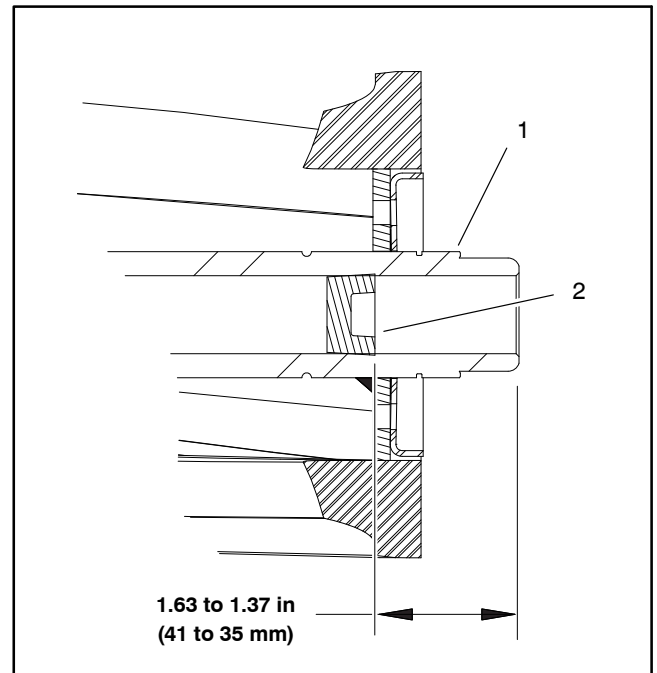

Figure 36
1. If removed, install new reel shaft plugs into cutting reel shaft. Plugs should be recessed into reel shaft from **1.370" to 1.630" (34.8 to 41.4 mm)** (Fig. 36).